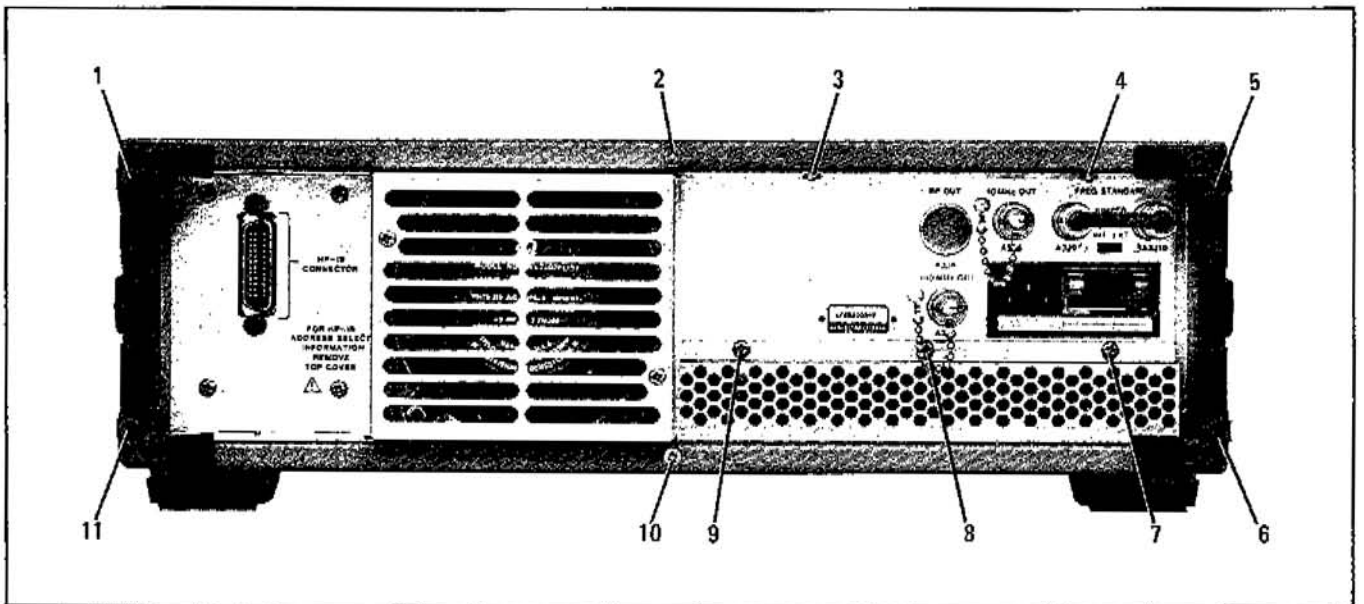

Figure 8-2. Rear Panel of the Synthesizer
- Remove the two plastic feet from the rear of the top cover by removing the Pozidriv screw from each foot (see Figure 8-2).
- Unscrew the Pozidriv screw at the middle of the rear edge of the top cover (see Figure 8-2). This is a captive screw and will cause the top cover to pull away from the front frame. Captive screw part number HP 0560-1171; clip part number HP 0510-0043.
- b. Remove the two plastic feet from the rear of the bottom cover by removing the Pozidriv screw from each foot (see Figure 8-2).
- c. Unscrew the Pozidriv screw at the middle of the rear edge of the bottom cover (see Figure 8-2). This is a captive screw and will cause the front edge of the bottom cover to pull away from the front frame. Captive screw part number is HP 0570-1171; clip part number is HP 0510-0043.
b. Remove the two Pozidriv screws from the top of the rear frame and the three screws from over the heat sink (see Figure 8-2).